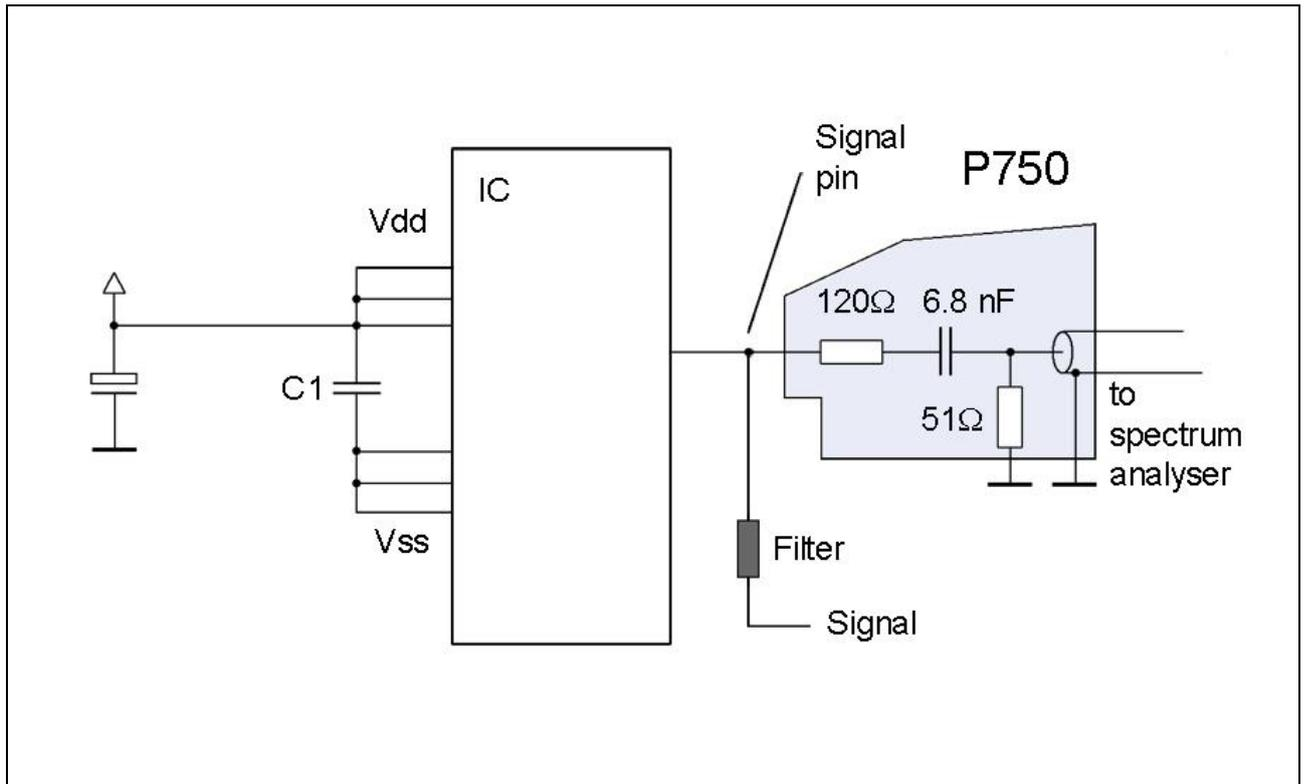

Figure 11: P750, voltage measurement on a signal pin while this is in operation.
4. Voltage measurement (**P750**) on a signal pin while this is in operation, **Figure 11**